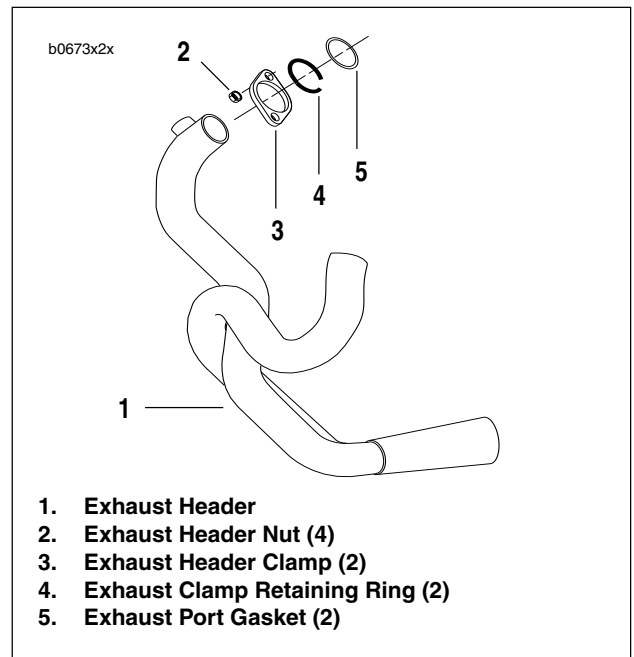

Figure 2-99. Header Support Mount
2. See Figure 2-99. Loosen the four exhaust header nuts using SNAP-ON SWIVEL SOCKET (Part No. PFSX916).
4. See Figure 2-99. Remove exhaust header clamps, exhaust clamp retaining rings and exhaust port gaskets from exhaust header.
1. See Figure 2-99. Install **new** exhaust port gaskets and exhaust clamp retaining rings.
6. See Figure 2-99. Install front and rear exhaust headers to cylinder heads with exhaust header clamps and nuts. Tighten the four exhaust header nuts to 6-8 ft-lbs (8-11 Nm) using SNAP-ON SWIVEL SOCKET (Part No. PFSX916).